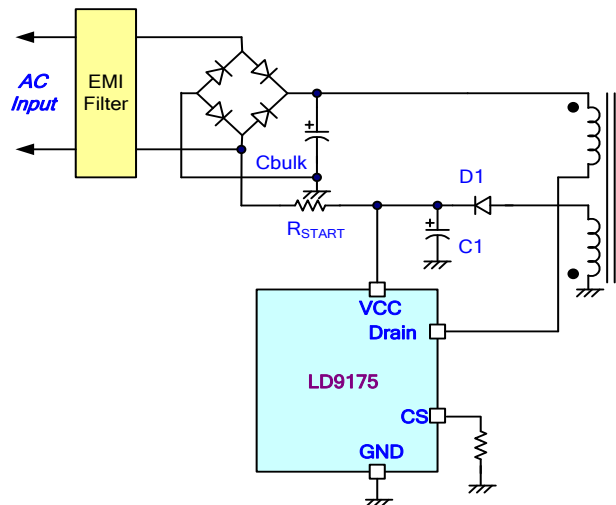

Fig. 13
The typical startup circuit to generate VCC of the LD9175 is shown in Fig. 13. At startup transient, the VCC is below the UVLO(ON) threshold, so there's no pulse delivered out from LD9175 to drive the power MOS. Therefore, the current through  $R_{START}$  will be used to charge the capacitor C1. Until the VCC is fully charged to deliver the drive-out signal, the auxiliary winding of the transformer will provide supply current. Lower startup current requirement on the PWM controller will help to increase the value of  $R_{START}$  and then reduce the power consumption on  $R_{START}$ . By using CMOS process and some unique circuit design, the LD9175 requires only  $1.5\mu A$  max to start up. Higher resistance of  $R_{START}$  will spend much more time to start up. The user is recommended to select proper value of  $R_{START}$  and C1 to optimize the power consumption and startup time.